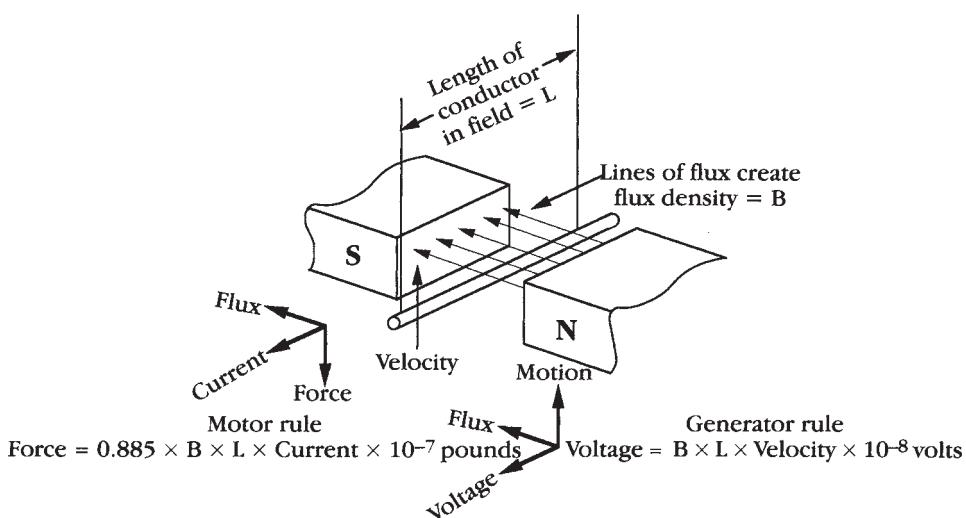
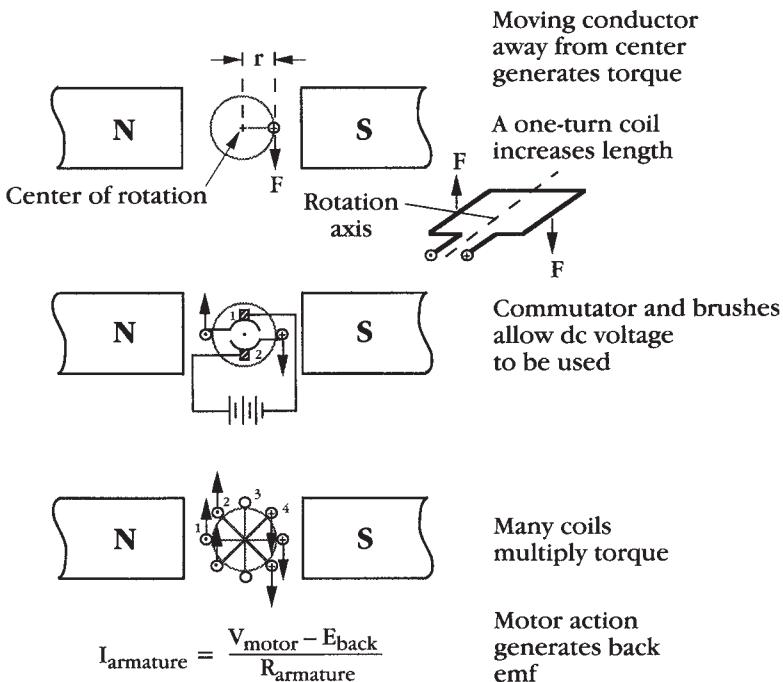

FIGURE 6-1 DC motor basics—the motor and generator rules.
FIGURE 6-2 DC motors basics—obtaining torque from moving conductors.
If you had a horseshoe-shaped magnet with the ends close together and you moved a wire through its pole area at a right angle to the flux as shown in Figure 6-1, the equation describing it would be
This relationship holds true whether the field is stationary and the wire is moving or vice versa. The faster you cut the lines of flux, the greater the voltage, but you must do so at right angles. (At any angle ϕ other than the 90-degree right angle, that equation becomes $V = Blv \times \sin \phi \times 10^{-8}$.) What you have just demonstrated is Faraday's Law or the generator rule: Motion of a conductor at a right angle through a magnetic field induces a voltage across the conductor. If the circuit is closed, the induced voltage will cause a current to flow. A handy way to remember the relationships is the right-hand rule: the thumb of your right hand points upward in the direction of the motion of the conductor, your index finger extends at right angles to it in the direction of the flux (from north to south pole), and your third finger extends in a direction at right angles to the other two, indicating the polarity of the induced voltage or the direction in which the current will flow as shown in Figure 6-1.
What we have just demonstrated here is Ampere's Law or the motor rule: Current flowing through a conductor at a right angle to a magnetic field produces a force upon the conductor. The right-hand rule is again a handy way to remember the relationships, but this time the thumb of your right hand points toward you in the direction of the current through the conductor, your extended index finger at right angles to it points in the direction of the flux (from north to south pole), and your extended third finger points downwards in a direction at right angles to the other two, indicating the direction of the generated force as shown in Figure 6-1. Now you're ready to talk seriously about motors.
If you could support the conductor shown in Figure 6-1 so that it could rotate in the magnetic field, you would create the condition shown in the upper part of Figure 6-2.
First you need to make it more “force-full.” Since the force varies with the length of the conductor, if you make a coil of wire, as shown in the upper right of Figure 6-2, twice as much length is cutting the lines of flux. The force generated on the right-hand wire is downward and the force generated on the left-hand wire is upward; they would assist one another in producing rotation and result in twice the torque.
To further assist rotation, you add the commutator and brushes, shown in the middle of Figure 6-2. This arrangement allows you to power your motor from a constant supply of direct current (DC) voltage. Switching the polarity of the coils when they reach the 12 o’clock or 6 o’clock position (minimum flux point) guarantees that current will always flow in through brush number 2 and out through brush number 1, thus always producing upward force on the left-hand conductor and downward force on the right-hand conductor, and creating a constant rotation.
To further increase the motor’s torque abilities, you add additional coils as shown at the bottom of Figure 6-2. In reality, each coil can have many windings, and you can
The armature is the main current-carrying part of a motor that normally rotates (brushless motors tend to blur this distinction) and produces torque via the action of current flow in its coils. It also holds the coils in place, and provides a low reluctance path to the flux. (Reluctance is defined as $(H \times 1)/4$ and measured in ampere-turns per lines of flux.) The armature usually consists of a shaft surrounded by laminated sheet steel pieces called the *armature core*. The laminations reduce eddy current losses; steel is replaced by more efficient metals in newer designs. There are grooves or slots parallel to the shaft around the outside of the core; the sides of the coils are placed into these slots. The coils (each with many turns of wire) are placed so that one side is under the north pole and the other is under the south pole; adjacent coils are placed in adjacent slots, as shown at the bottom of Figure 6-2. The end of one coil is connected to the beginning of the next coil so that the total force then becomes the sum of the forces generated on each coil.
In the real world, electromagnets (recall your toolbox nail with a few turns of insulated copper wire wrapped around it) are customarily used instead of the permanent magnets you saw in Figure 6-1 and Figure 6-2. (Permanent magnet motors are, in fact, used, and you'll be formally introduced to them and their advantages later in this section.) In a real motor the lines of flux are produced by an electromagnet created by winding turns of wire around its poles or pole pieces. A pole is normally built up of laminated sheet steel pieces, which reduce eddy current losses; as with armatures, steel has been replaced by more efficient metals in the newer models. The pole pieces are usually curved where they surround the armature to produce a more uniform magnetic field. The turns of copper wire around the poles are called the field windings.